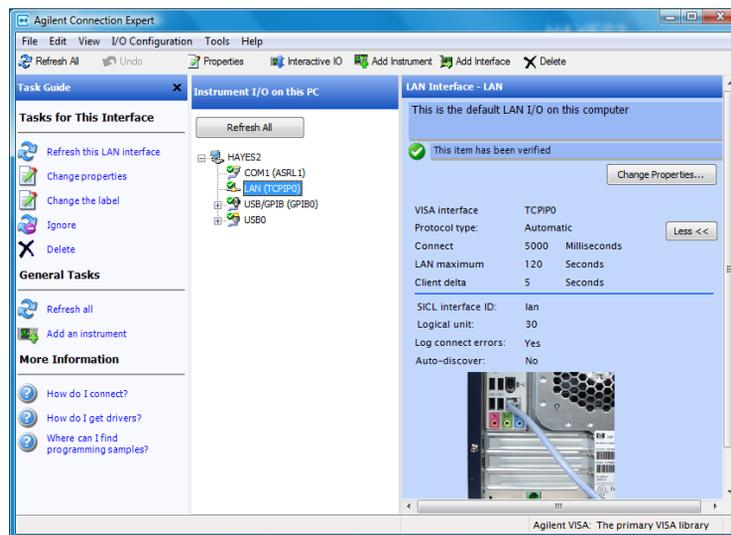

Figure 30 Agilent Connection Expert, LAN Connections
Click the Agilent IO Control icon in Windows' Notification area, and select **Agilent Connection Expert**. When the main screen appears (Figure 30), you will see a map of the system connections in the Explorer Pane, **Instrument I/O on this PC**. If the interface and instrument(s) you want to configure display in the Explorer Pane, proceed to “Step 4: Communicate with Instruments” on page 114!
- 1 From the Connection Expert main screen, select the LAN interface node in the Explorer Pane (center pane). **LAN (TCPIP0)** is selected in Figure 30. Right-click to get a menu and select **Add Instrument**. (Alternatively, you could click the **Add Instrument** button on the tool bar, the Task Guide, or the I/O Configuration menu.)